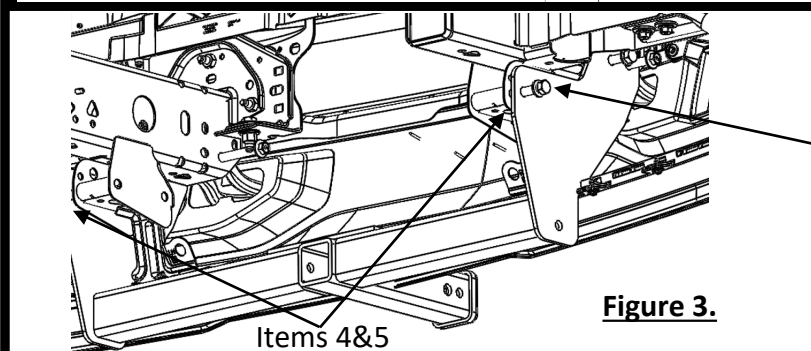
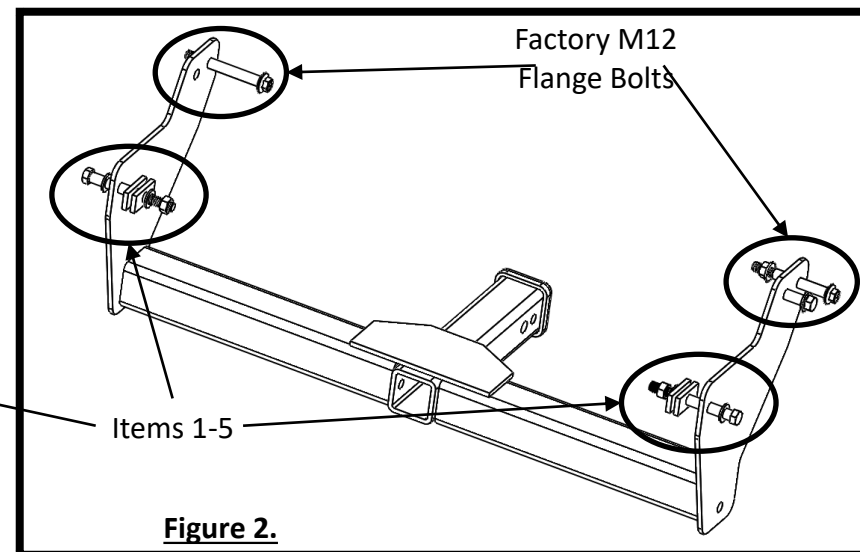

Figure 3.
Figure 2.
- 2. Remove factory nots and passenger side bolts** – using an 18mm socket and 18mm end wrench, remove the (2) factory M12 flange bolts holding the passenger side tow hook. Remove the flange nut from the driver side tow hook and slide the bolt flush with the frame. The passenger side tow hook will rest inside the frame. Be careful not to let it fall forward. The driver side tow hook will stay bolted in place with the rear bolt. **See Figure 2.**
- 3. Loosely install hitch** – Slide the hitch into position outside frame rails. **See Figure 3.** Temporarily secure the hitch by first using the supplied M12 bolts and washers (item 1 and item 3) and the front driver side tow hook flange bolt. Washers should go between the bolt head and frame rail, and the nut and frame rail. Hand tighten the M12 hex nuts (item 2) and front driver side tow hook flange nut. Install the (2) passenger side tow hook flange bolts and flange nut. Make sure the passenger side flange bolts also engage the tow hook. **See Figure 2.**
- 4. Install spacer blocks**– With all the tow hook fasteners supporting the hitch, starting with the driver side remove the supplied M12 bolts (Items 1 and 3) from the frame. Slide in blocks ((1) item 4 and (1) item 5). Then reinstall the M12 bolts, washers, and nuts (items 1, 2, and 3). Repeat for passenger side. **See figure 3.**
- 2. Remove M12 Factory bolts** – using an 18mm socket and 18mm end wrench, remove the 2 flange bolts holding the passenger side tow hook. Remove the flange nut from the driver side tow hook and slide the bolt flush with the frame. **See Figure 2.**
3. **Loosely install hitch** – Slide the hitch into position outside frame rails. **See Figure 3.** Secure the hitch by first using the supplied M12 bolts and washers (item 1 and item 3) and the front driver side tow hook flange bolt. Hand tighten the M12 hex nuts (item 2) and front driver side tow hook flange nut. Install the 2 passenger side tow hook flange bolts and flange nut.